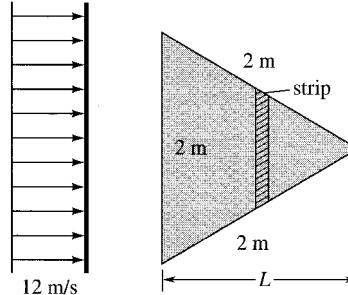

Fig. P7.34
**7.34** A thin equilateral-triangle plate is immersed parallel to a 12 m/s stream of water 20°C, as in Fig. P7.34. Assuming  $Re_{tr} = 5 \times 10^5$ , estimate the drag of this plate.